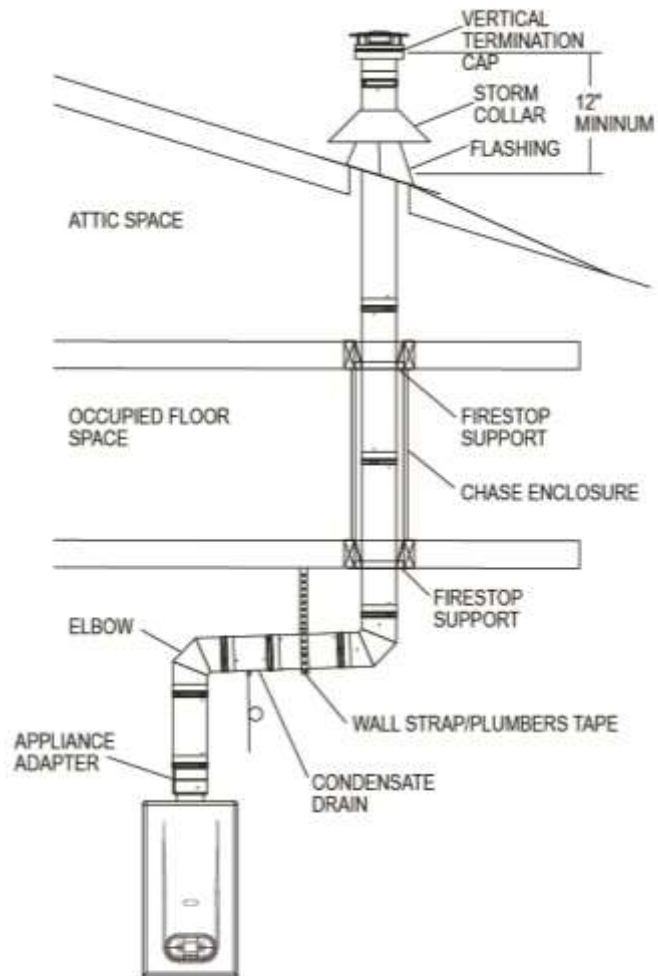

Figure 6
4. Install Firestop Support(s). At each framed floor opening, install a Firestop Support. The Firestop Support is listed to support up to 40-ft of CVS vent pipe. The Firestop Support is installed from underneath the opening, held in place by (4) 1-1/2" wood screws in the corners (Fig 6). From the other side, extend the straps of the Firestop Support and secure them to nearby framing members with additional 1-1/2" wood screws. As the vent passes through the Firestop Support, install the clamp around the vent and tighten with the screws provided, so the weight of the vent is supported by the Firestop Support (**Fig 6**).